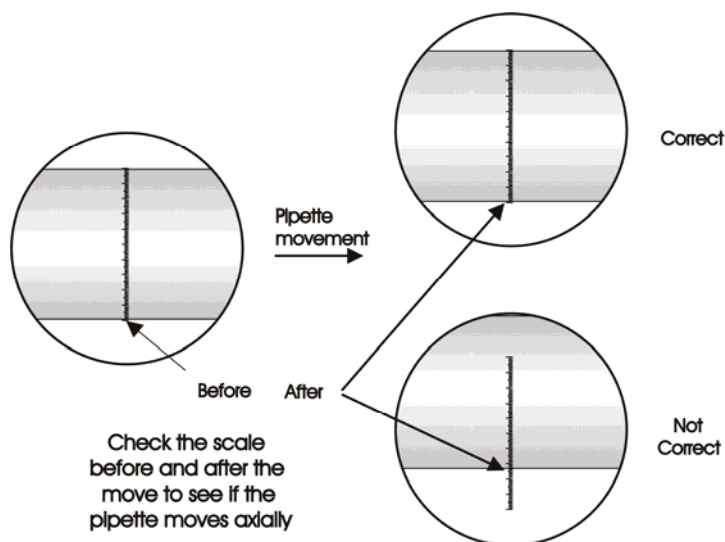

Figure 4-2. Field of view when aligning the pipette shaft
2. Bring the pipette SHAFT into the field of view. Because the SHAFT region has not been "pulled" its walls are parallel. Using a 10X objective, the walls should line up pretty well with the end marks of the reticule scale bar (Figure 4-2).